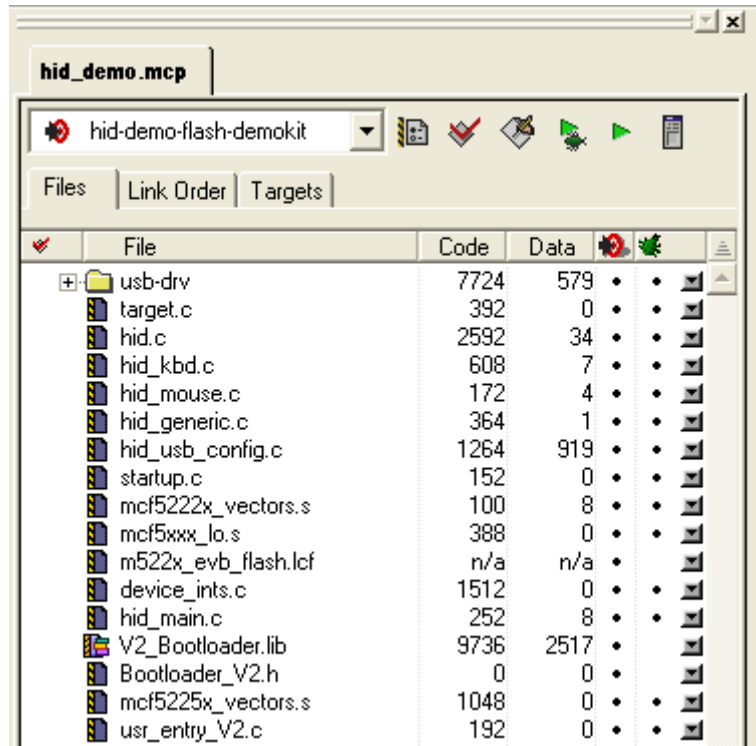

Figure 15. ColdFire V2 CMX example project window files
3. The bootloader files should now be visible in the CodeWarrior Project window shown in Figure 15.